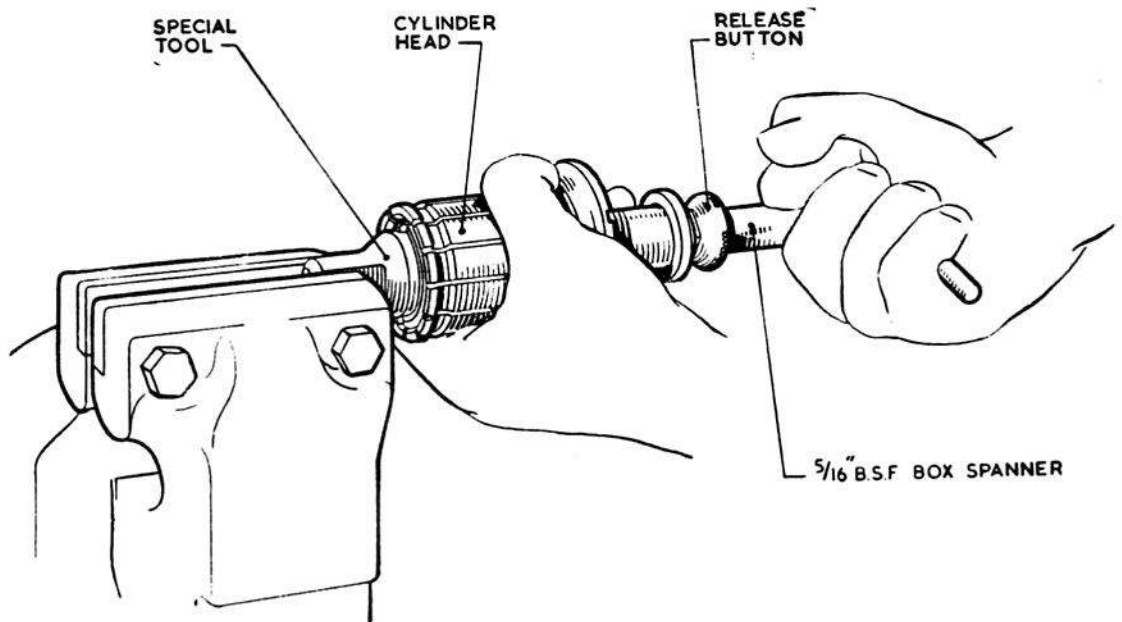

Fig. 7. Dismantling release piston
- (2) Remove the lock-nut in the release button with a $\frac{5}{16}$ in. B.S.F. box spanner, at the same time restraining the release piston from turning by engaging the special tool in the slots provided (*fig. 7*).
- (3) Pull off the release button; the release piston and spring can then be withdrawn from the cylinder head.